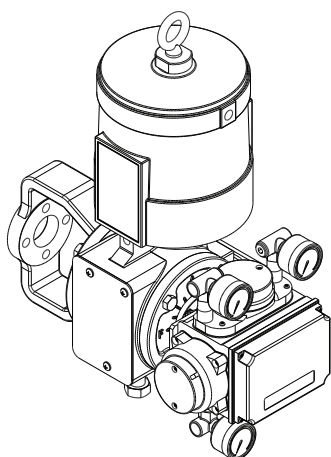

Figure 2 - Assembly of Valtek HPP3500 Positioner in the Rotary Actuator
- If the actuator is equipped with a Valtek Positioner Series HPP3500 or other positioner installed parallel to the transfer case cover (see Figure 2), remove the positioner with its corresponding bracket, the feedback link and/or the adapting shaft from the actuator.